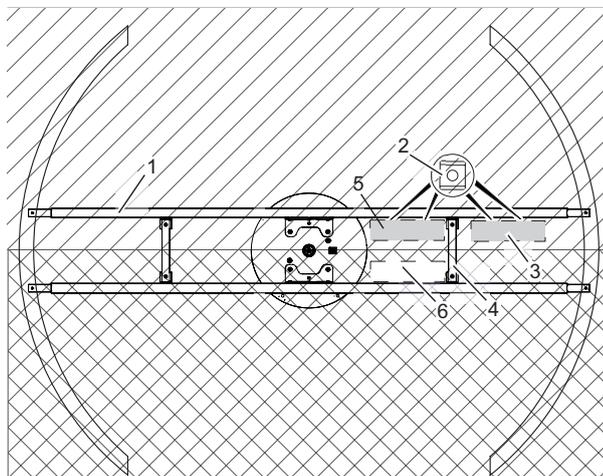
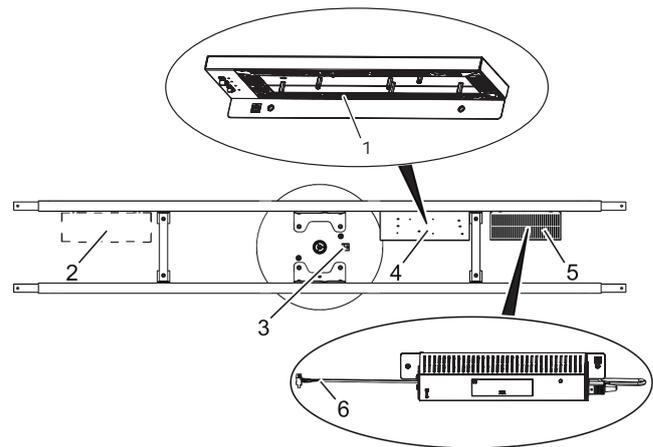

Fig. 110 Sliding nuts for controller and power supply unit
Fig. 111 Fastening the controller and power supply unit in the standard version
1. Observe the information on positioning controller and power supply unit in the wiring diagram. For doors with a diameter smaller than 2.7 m, mount the power supply unit to this (Fig. 110/6) position.
Push the sliding nuts (2x) (Fig. 110/2) in the center beam groove (Fig. 110/1) to the spacing of the mounting holes for the power supply unit (Fig. 110/3).
2. Slide the sliding nuts (2x) (Fig. 110/2) in the center beam groove (Fig. 110/1) to match the spacing of the mounting holes for the controller (Fig. 110/4).
3. Fasten the controller (Fig. 111/4) with the connection side (Fig. 111/1) facing down in the ceiling structure.
Fasten the controller (Fig. 111/2) with mounting screws in sliding nuts (screw pack **34053601150**).
4. With revolving doors with smaller diameters the power supply unit (Fig. 111/2) may also be fastened on the opposite side of the controller (Fig. 111/4). The strut (Fig. 110/4) may have to be moved before assembly.
Attach the power supply unit (Fig. 111/5) with controller connection (Fig. 111/6) facing the controller (Fig. 111/4) (screw pack **34053601150**).
5. Connect the power supply unit (Fig. 111/3) to the controller (Fig. 111/2). Follow the wiring diagram.
6. Connect the operator (Fig. 111/1) to the controller (Fig. 111/2). Follow the wiring diagram.